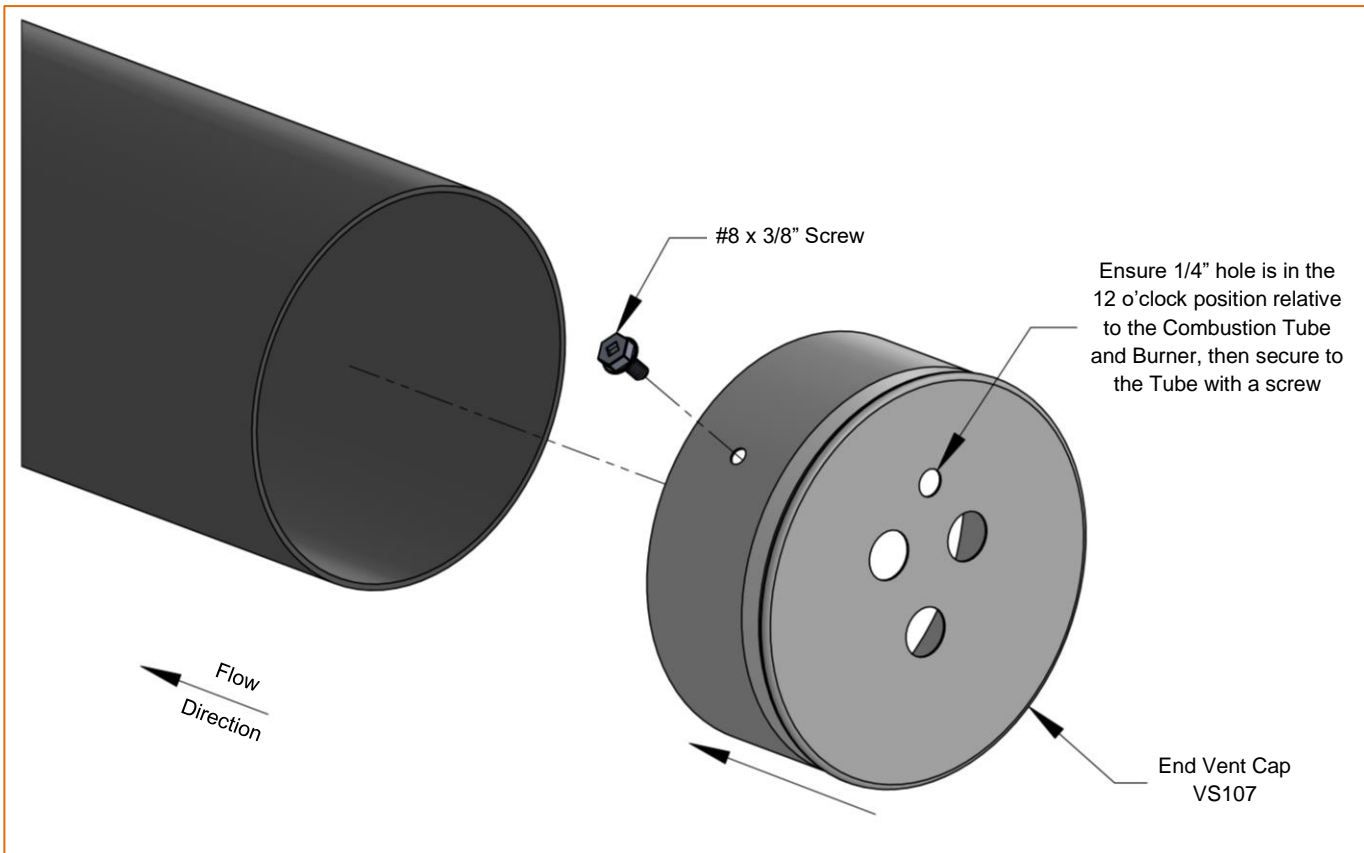

Figure 10: End Vent Cap Orientation
3. Install an End Vent Cap at the beginning of each Branch (open end of the first Combustion Tube) and fasten it with a #8 x 3/8" screw as shown in Figure 10 below.